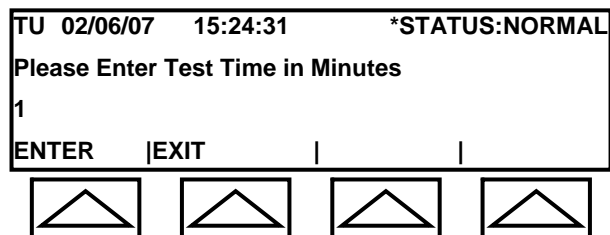

Fig. 5-2b: Set Time Submenu
- b. Select SET TIME. The LCD displays the SET TIME Submenu (see Figure 5-2b).